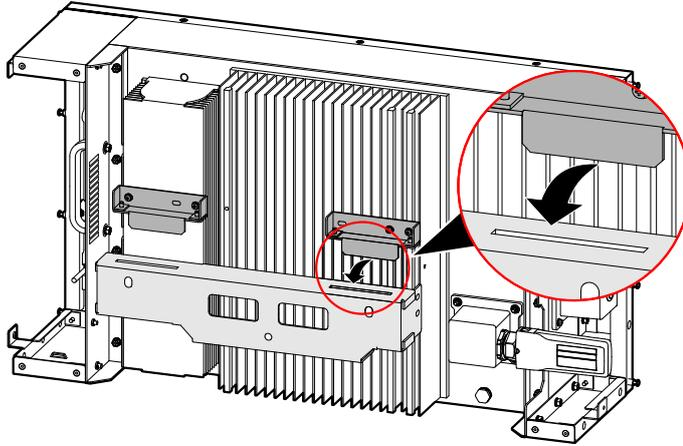

Figure3-25 Hang the inverter to wall-mounted bracket
2. Hang the inverter to wall-mounted bracket, as shown in Figure3-25.